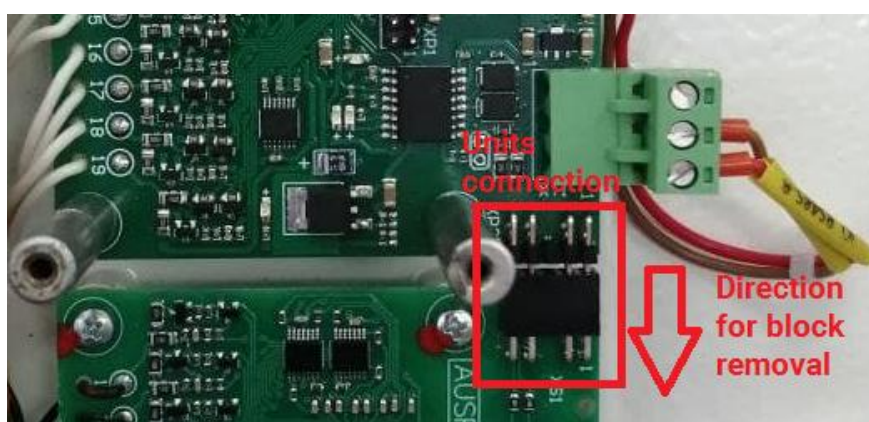

Figure 24 - Disconnect second unit from main
2. Disconnect second unit from main, for that pull second unit in the opposite direction main unit, as shown at the figure 24.